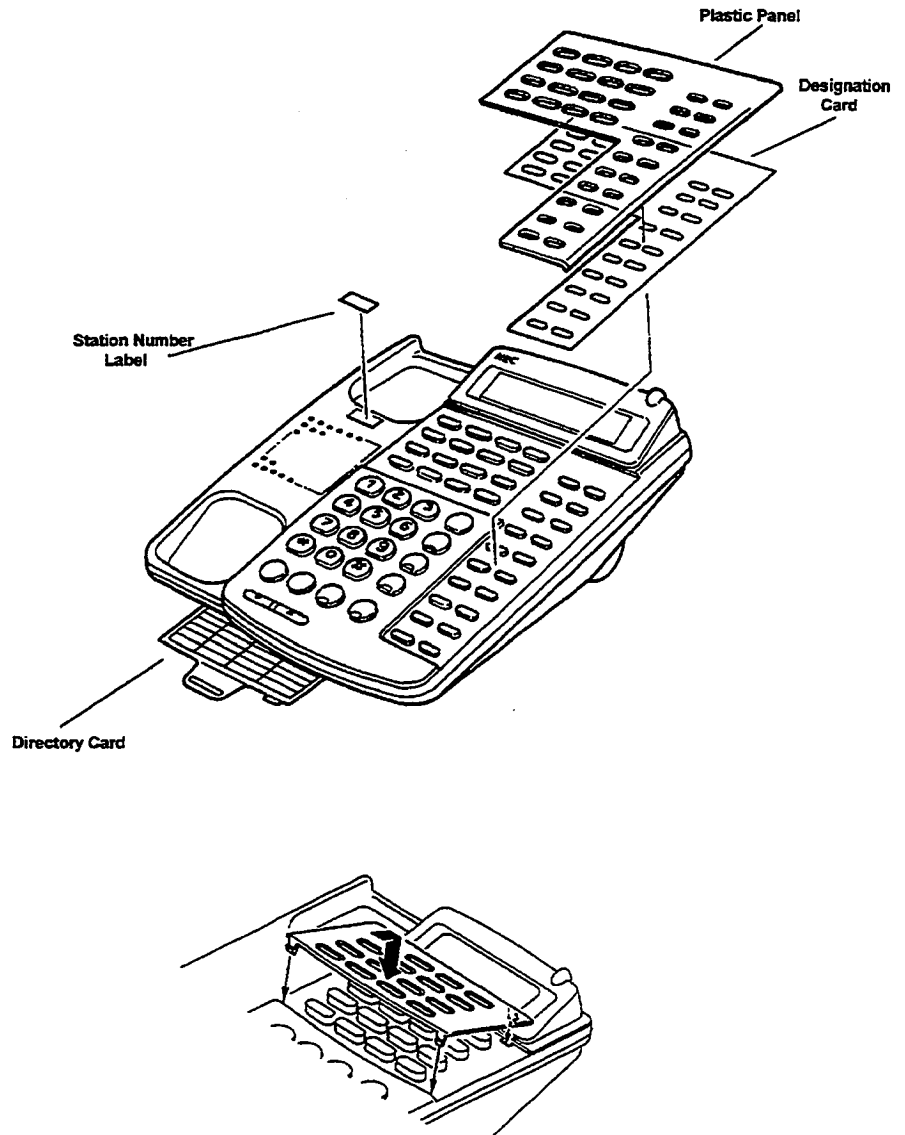

Figure 1-52 Installing the Designation Card, Plastic Panel, and Labels on a Multiline Terminal
1. Place the designation card over the keys on the Multiline Terminal. (Refer to Figure 1-52 - Installing the Designation Card, Plastic Panel, and Labels on a Multiline Terminal.)
2. Insert the top hooks of the clear plastic panel in the applicable holes on the Multiline Terminal, then place the bottom hooks in the Multiline Terminal. Snap the plastic panel into place to secure it. (Refer to Figure 1-52 - Installing the Designation Card, Plastic Panel, and Labels on a Multiline Terminal.)
4. Remove the directory card from the sheet and put it on the directory tray. (Refer to Figure 1-52 - Installing the Designation Card, Plastic Panel, and Labels on a Multiline Terminal.)